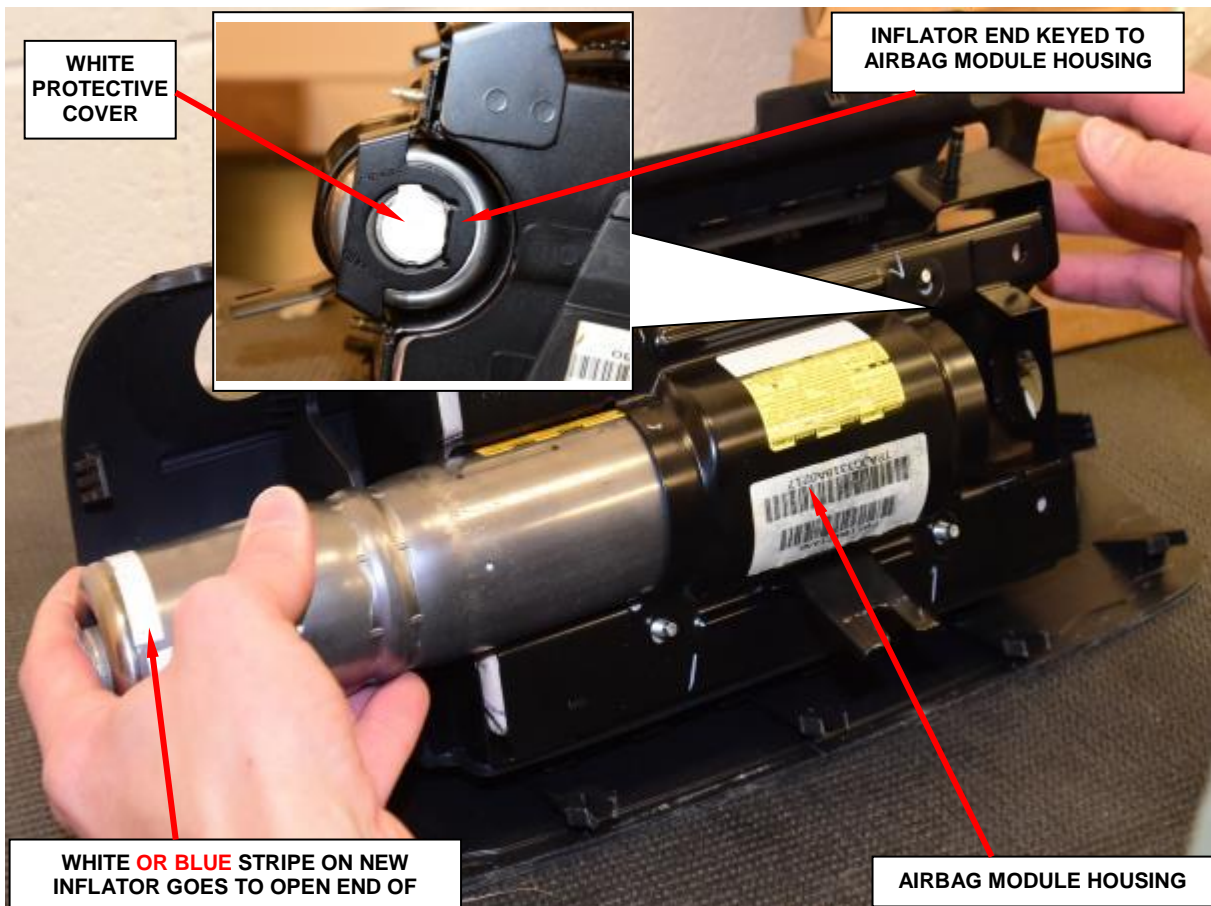

Figure 136 – Inflator Installation
NOTE: The inflator's key **MUST** line up with the housing's key (Figure 136).
NOTE: The inflator is keyed to fit into the housing. Ensure that when the new inflator is inserted, the keyed end goes in first (Figure 136).
n. Slide the **NEW** inflator into the passenger airbag module housing. The keyed end is inserted first; therefore, the white stripe on the **NEW** inflator will be located at the open end (Figure 136).